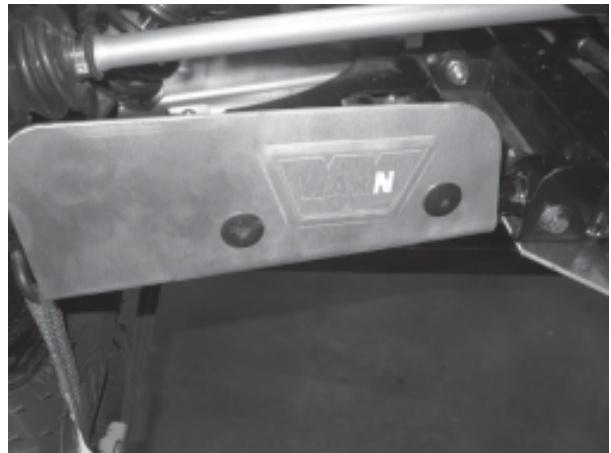

Figure 1
2. Install guard (A1) and fasten using #12 screws (B3) through rear mounting holes of guard. Do not tighten. **(Figure 1)**